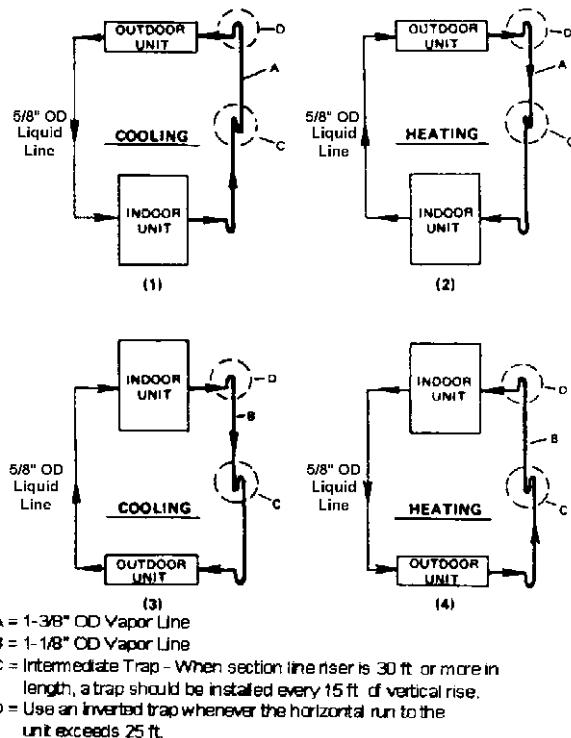

FIGURE 5 - FIELD PIPING DIAGRAMS
The following factors should be considered when locating the indoor and outdoor units and when sizing the refrigerant lines for a split heat pump system. Refer to Figure 5.
1. The cooling cycle when the outdoor unit is above the indoor unit (detail 1 of Figure 5).
2. The heating cycle when the indoor unit is above the outdoor unit (detail 4 of Figure 5).